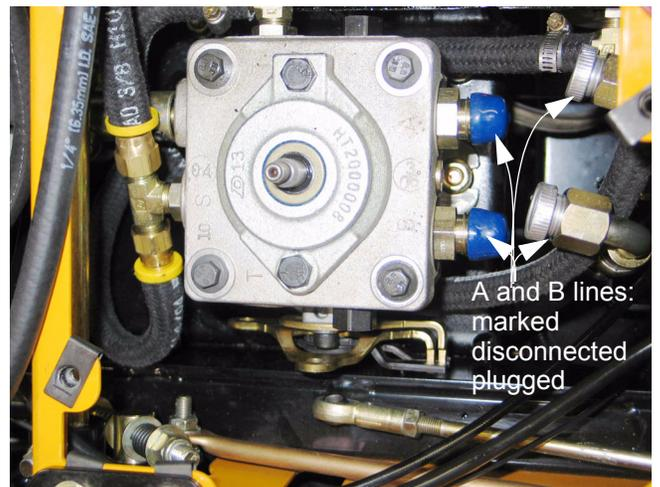

Figure 25.11
- 25.11. The hoses at the front of the hydro. pump connect the "A" and "B" ports to the wheel motors. Mark the hoses and disconnect them using a pair of 7/8" wrenches. See Figure 25.11.